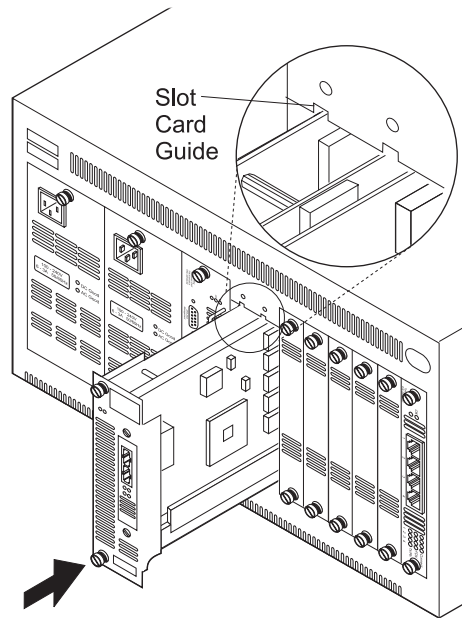
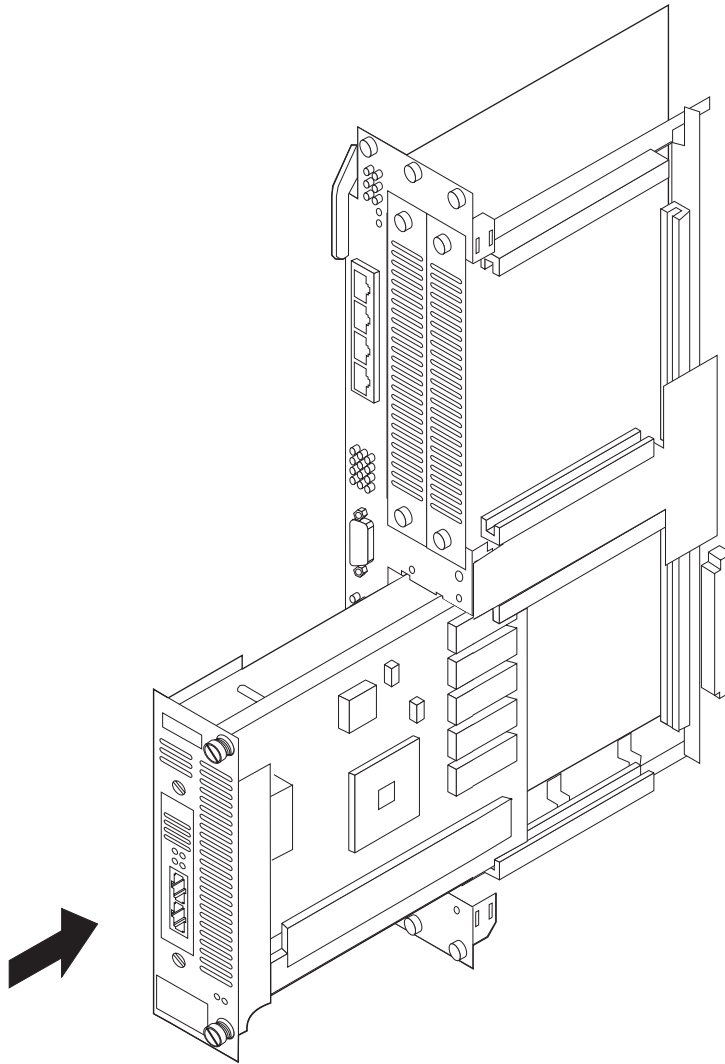

Figure 2-2. Installing the UFC in a Standalone Switch
Figure 2-3. Installing the UFC in a Switch Module
- 6 Carefully insert the card into the UFC slot, making sure that the card edges are correctly aligned in the guides and that the connector on the card is seated in the connector at the back of the slot. See Figure 2-2 and Figure 2-3 on page 2-4. When the UFC is fully seated, the UFC faceplate rests against the front of the base switch.